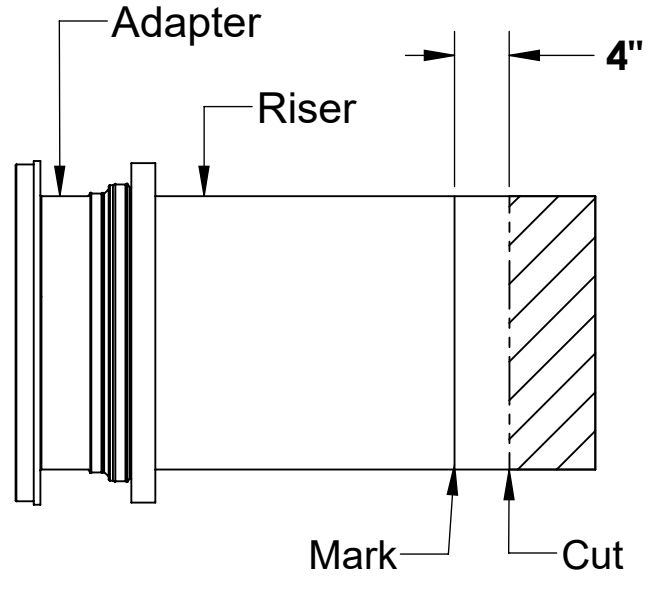

Figure 3
- Whether the riser needs to be cut or not, make another mark with the silver marker on the sidewall of the riser a distance of 4 INCHES from the edge just cut. If you did not make a cut (meaning your riser height + dimension from step 5 line was beyond the bottom edge of your riser), still mark the sidewall of the riser 4 INCHES above where your riser height + dimension from step 5 line would have been. DO NOT cut this new line. Once the riser is installed into the main unit, this new line will end up at the top of the gasket and will aid in re-assembly. See Figure 3.